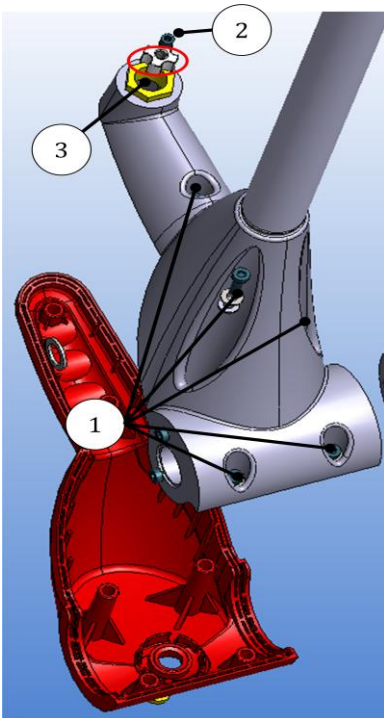

Figure 7: Detaching the cover
1. Unscrew the screws (5 pc.)(Figure 7(1)) and remove the cover.
2. Remove the screw (2)(Figure 7). Notice that the sand blockage (marked with red circle) won't come out but you are now able to unscrew the screw (3).